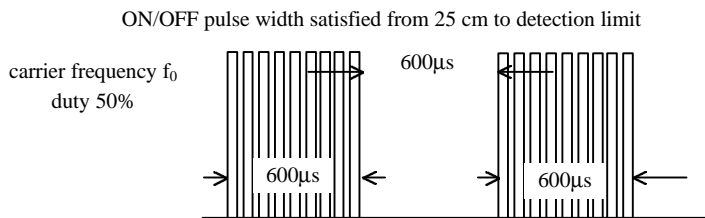

Fig 1. Burst Wave
- (1) Measuring place .....Indoor without extreme reflection of light.
- (2) Ambient light source... Detecting surface illumination shall be 200±50Lux under ordinary hite fluorescense lamp of no high frequency lighting.
- (3) Standard transmitter ... Burst wave indicated in Fig 1. of standard transmitter shall be arranged to 50mVp-p under the measuring circuit specified in Fig 2.